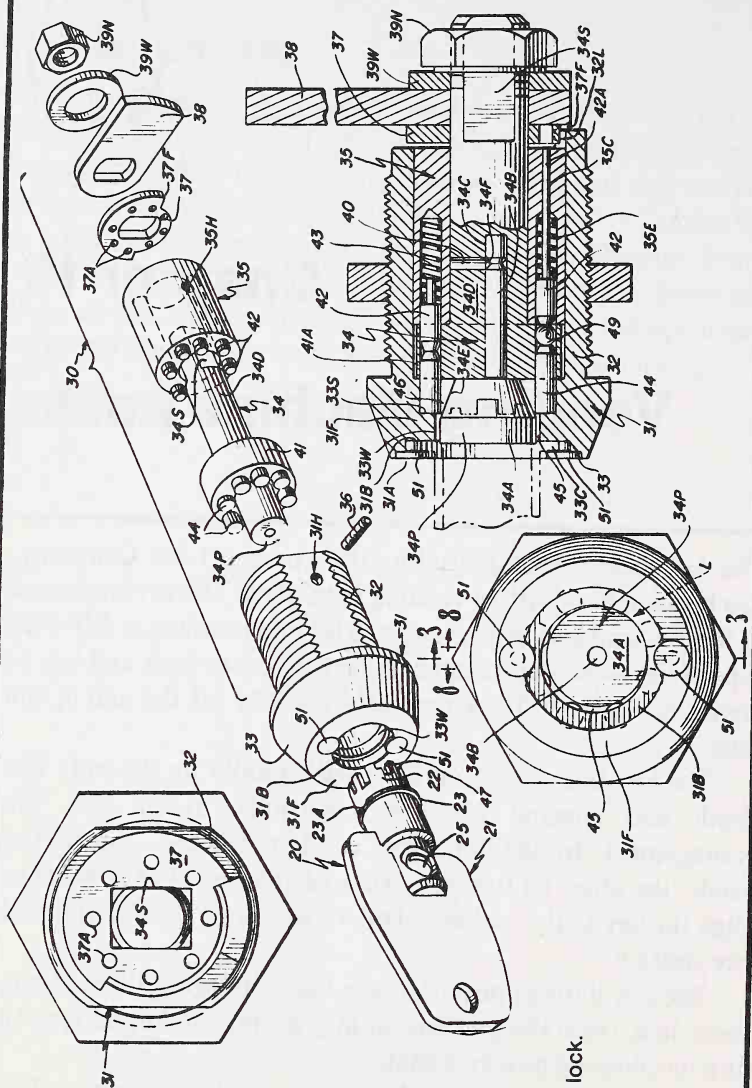

Fig. 16-1. The Ace lock.
The Ace lock, manufactured by the Chicago Lock Company, has become standard on vending machines. The arrangement of the pin tumblers increases security and requires a different type of key—one that is tubular. A typical Ace lock and key is shown in Fig. 16-1. The cam works directly off the end of the plug.
5. Install the pins. The flat ends of the core pins are toward the key (See Fig.16-1). This pattern must be followed: